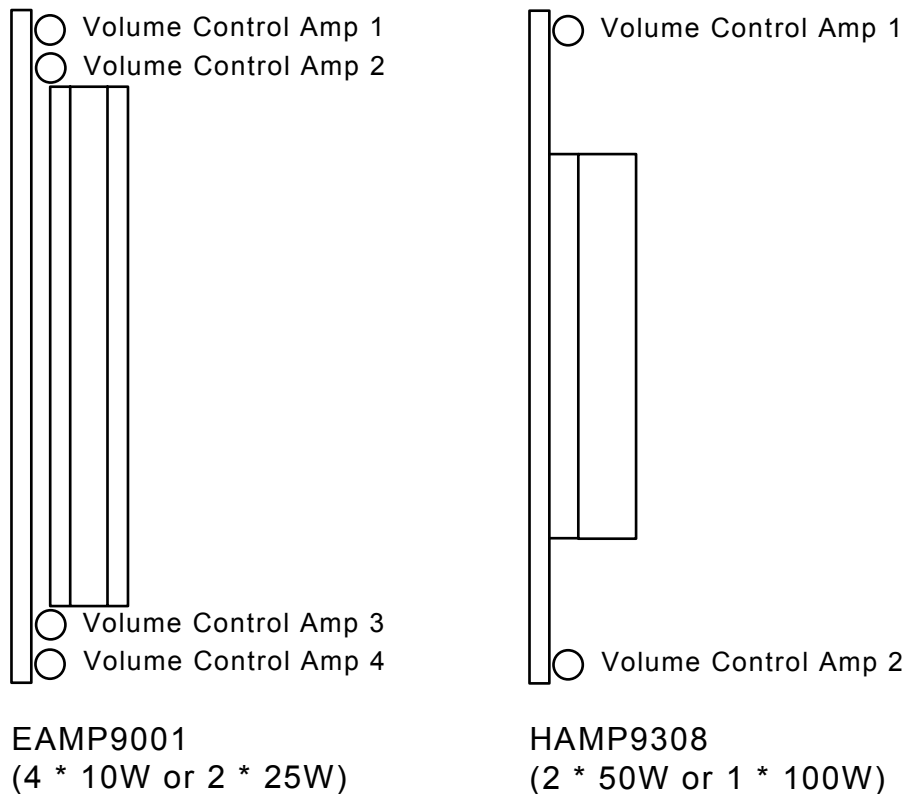

Figure 17-1 Volume Controls for EAMP9001 and HAMP9308 Amplifiers
- With Evacuate tones selected adjust the speaker tap settings to the minimum power rating required to achieve the required sound level. If required, adjust the controls on the amplifiers to achieve more precisely the level required (but note that in general it is best if all amplifier controls are left at their maximum positions in order to achieve consistent relative levels of the various signals that can be produced). Refer to sections 15.4.4, 17.4.1 and Figure 17-1.
The location of the controls is shown in Figure 17-1